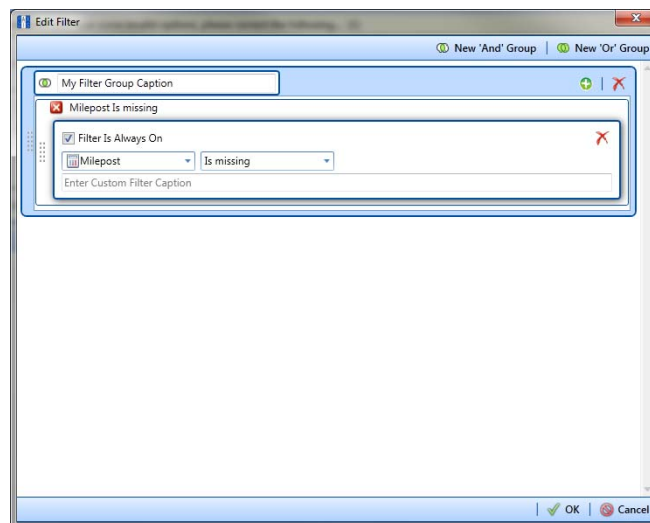

Figure 10-17. New 'And' Filter Group
- a Click  **New 'And' Group** to open the filter properties group box (Figure 10-17).